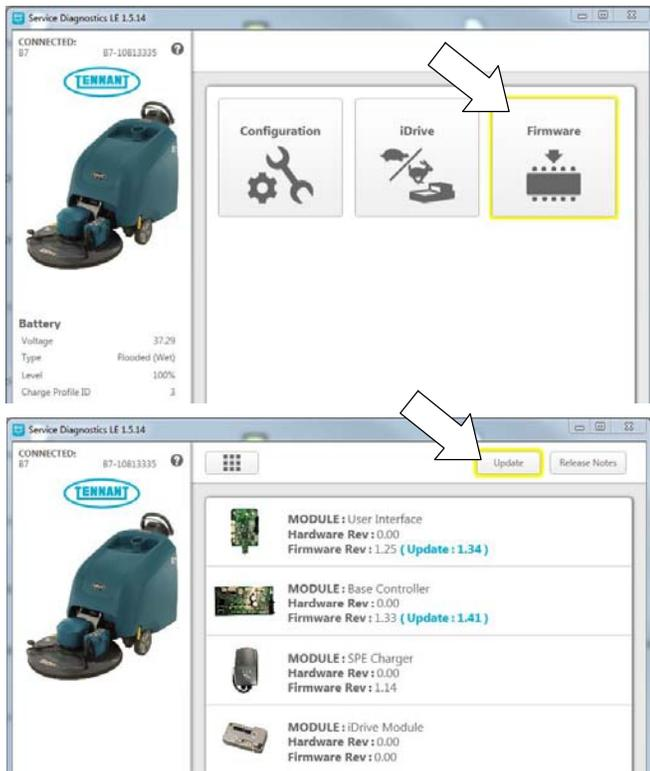

Fig. 14
- Once connected, the home screen will appear (Figure 14). If the Firmware button is highlighted in yellow, update the machine's firmware before programming the new drive module.